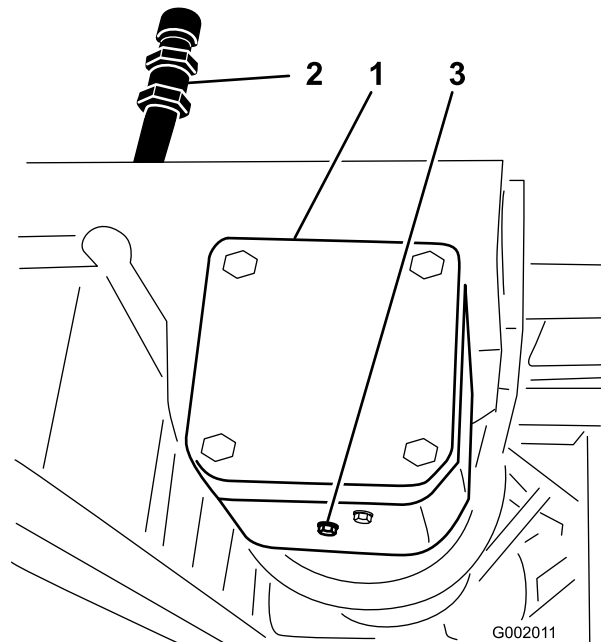

Figure 68
2. Place a pan under the drain plug on the pump drive gear box (Figure 68).
3. Remove the fill plug and drain plug (Figure 68), allowing the oil to drain into the pan.